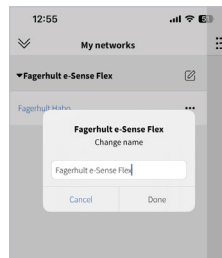

Figure 3.7 Change name
1. Click ✎ to change the name of the project in "My networks" (see figure 3.7).